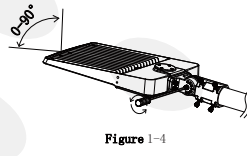

Figure 1-4
- Step4: If the installation angle of the fixture needs to be adjusted, loosen the screws of the bracket and fix them again after finished adjustment, Figure 1-4;